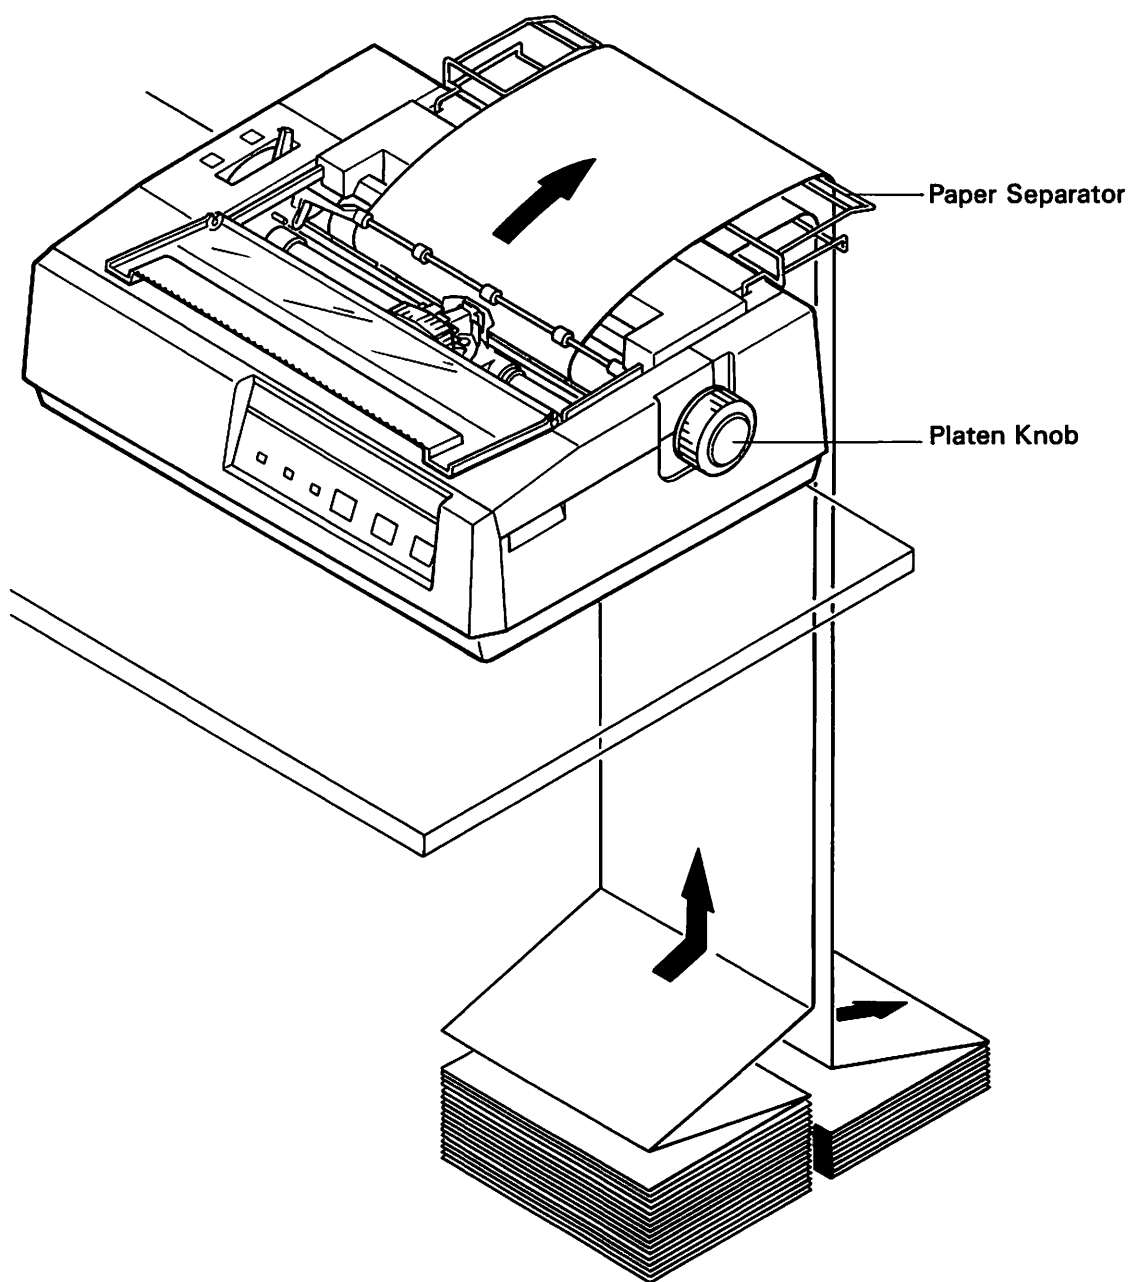

Fig. 2-10
- 2) Guide the paper through the paper separator, and into the printer (See Page 2-3, Paper Loading). When the paper end comes on the platen, draw it over the top of the paper separator, and drop it from the rear. (See Fig. 2-10)